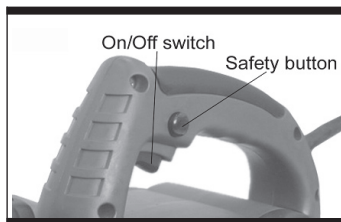

Fig 2
1. SWITCHING ON AND OFF (see fig2)